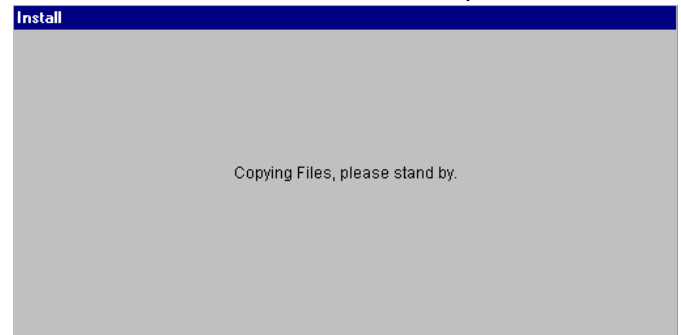

Figure 1
4. The installation files will be copied to the PC. (Fig. 1)